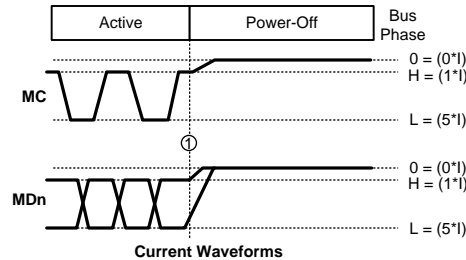

Figure 8. Bus Power Down Timing
(1) Typical values are given for  $V_{DDIO} = 1.8V$  and  $V_{DD} = V_{DDA} = 1.8V$  and  $T_A = 25^\circ C$ .
(2) This is a functional parameter and is specified by design or characterization.
(3) Specified functionally by the  $I_{DDZ}$  parameter. See also Figure 8.
In the OFF phase, both SER and DES MPL transmitters are turned off with zero current flowing on the MC and MDn lines. Figure 8 shows the transition of the MPL bus into the OFF phase. If an MPL line is driven to a logical Low (high current) when the OFF phase is entered it may temporarily pass through as a logical High (low current) before reaching the zero line current state.